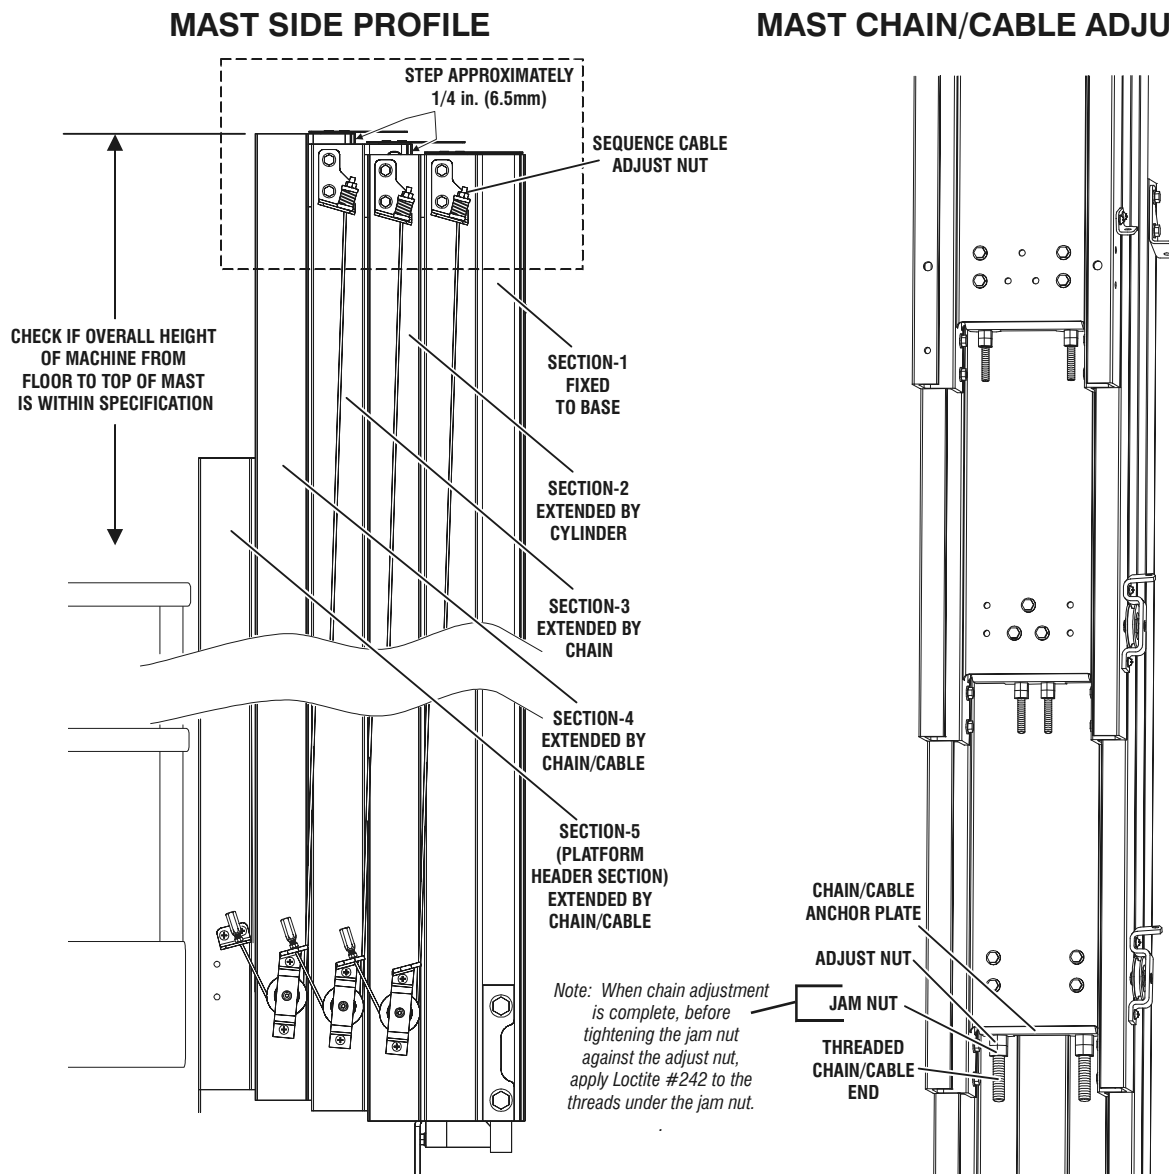

Figure 2-7. Mast Chain/Cable/Sequence Cable Adjustment Components. (Typical)
2. Then with no load in the platform check the side profile of the top of the mast for the amount of adjustment necessary to obtain the 1/4 in. (6.5mm) step for mast sections-3 and up. (See Figure 2-7.)
6. **Tighten** (to raise mast section), or **loosen** (to lower mast section) the **adjusting nut** against the anchor plate **on each** chain/cable. Adjust the nut the amount required to raise or lower the top of the mast section to match the side profile shown in Figure 2-7. when the mast is retracted. Be certain each chain/cable pair is adjusted to equal tension. (*The threaded end of the chain/cable will need to be restrained while tightening the adjust nut to keep the chain/cable from twisting.*)
7. Retract the mast all the way and check if the top of the mast sections appear as shown in Figure 2-7.
8. Repeat steps (1) through (7) for remaining mast sections. **ENSURE THAT ALL CHAIN/CABLE PAIRS HAVE EQUAL TENSION.**
1. Be certain the mast is completely retracted and at the bottom of travel. Check the mast "Side Profile" at the top of the mast as shown in Figure 2-7., adjust mast sections to proper height if necessary.